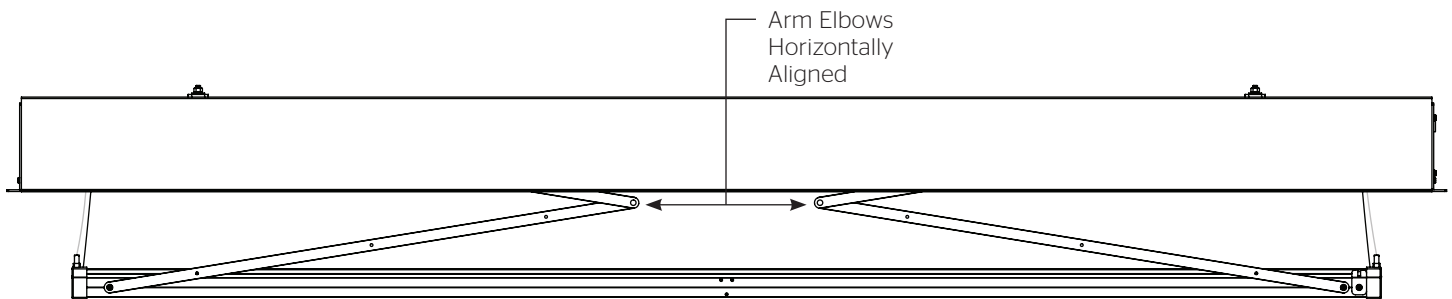

Figure 23
1. When screen is lowered approximately six inches below the case, the elbows of the arms should be horizontally aligned with each other (Figure 23)